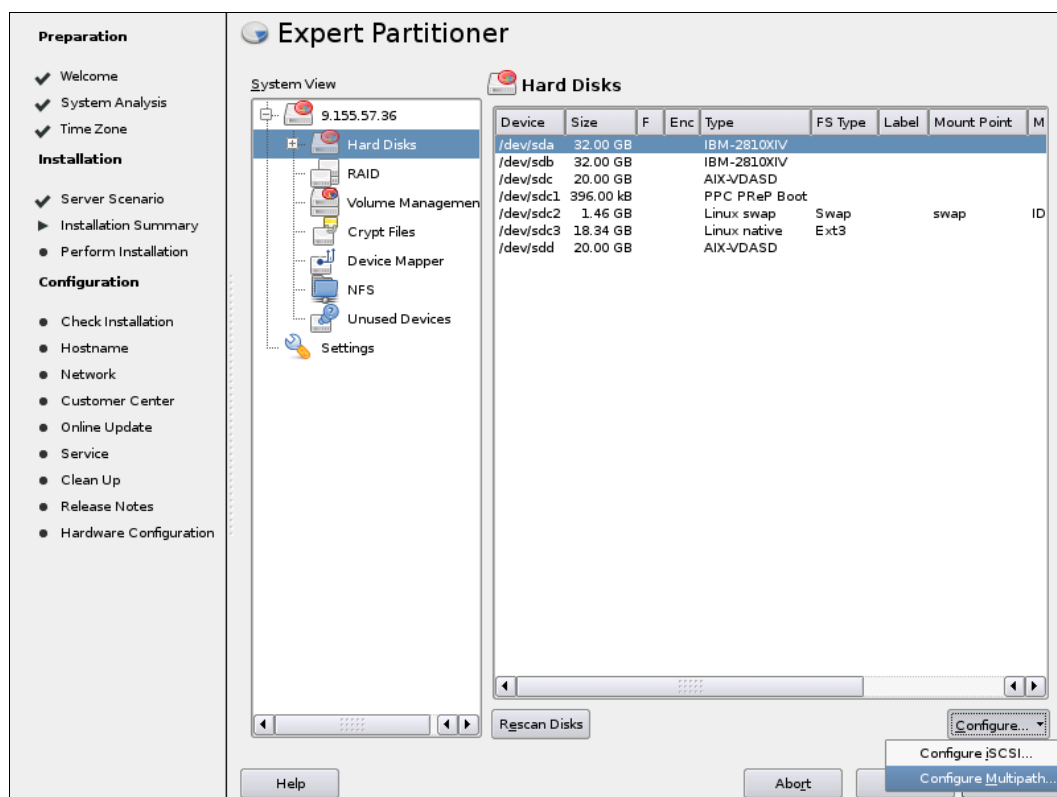

Figure 4-9 Enabling multipathing in the Expert Partitioner window
4. Enable multipathing in the Expert Partitioner window (see Figure 4-9). Select **Hard Disks** in the navigation section on the left side. Then, click **Configure** → **Configure Multipath**.